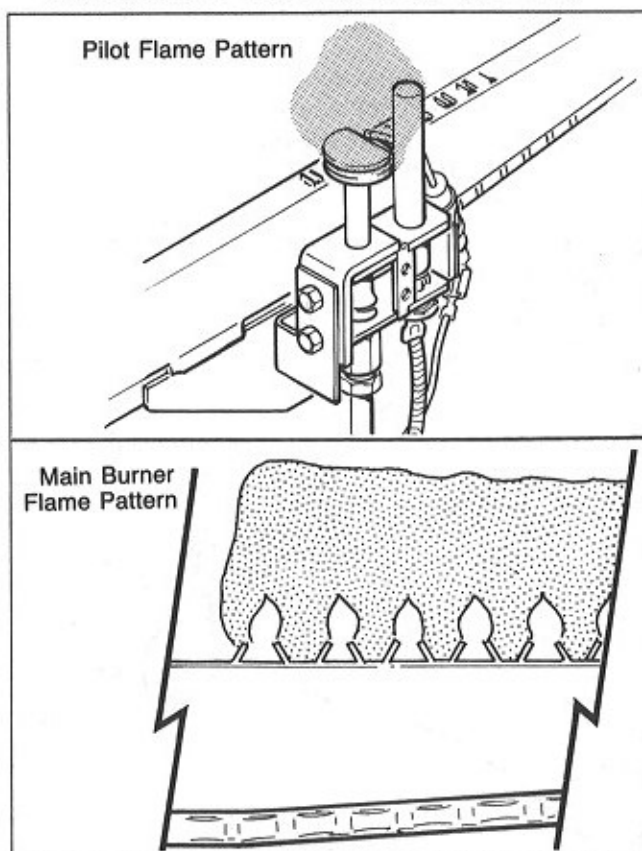

Figure 16. Pilot and Main Burner Patterns
5. Make a regular visual check of the main burner and pilot flame patterns. They should resemble Fig. 16.